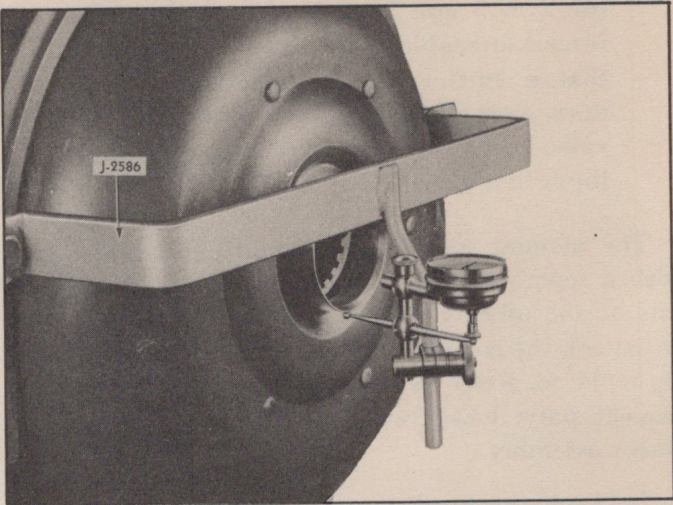

Fig. 210—Checking Torus Cover Runout
- (b) Assemble a dial indicator to tool No. J-2586 so the hole attachment contacts the hub of the torus cover (Fig. 210).